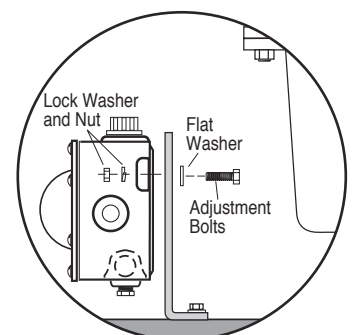

Figure 2B
2. Mount the LM2000 to the universal bracket using two 1/4-20 UNC x 1-1/4 inch (32 mm) bolts, nuts and lock washers supplied (Figure 2B). **DO NOT** tighten the adjustment screws too tightly. You will have to adjust the LM2000 later in the installation process.